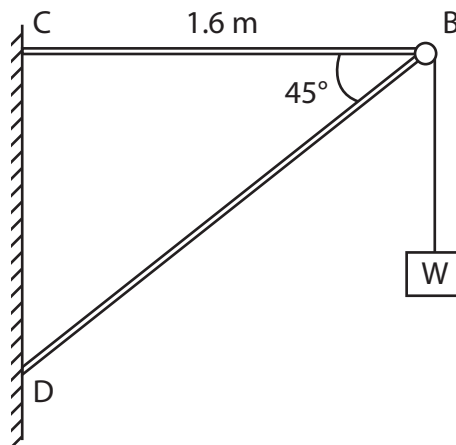

Figure 1
The simple framework shown in Figure 1 is made from rods of circular cross section of the metal you have tested. It is fixed at C and D to a wall with simple pinned joints. A load (W) of 2 tonnes is supported at B.